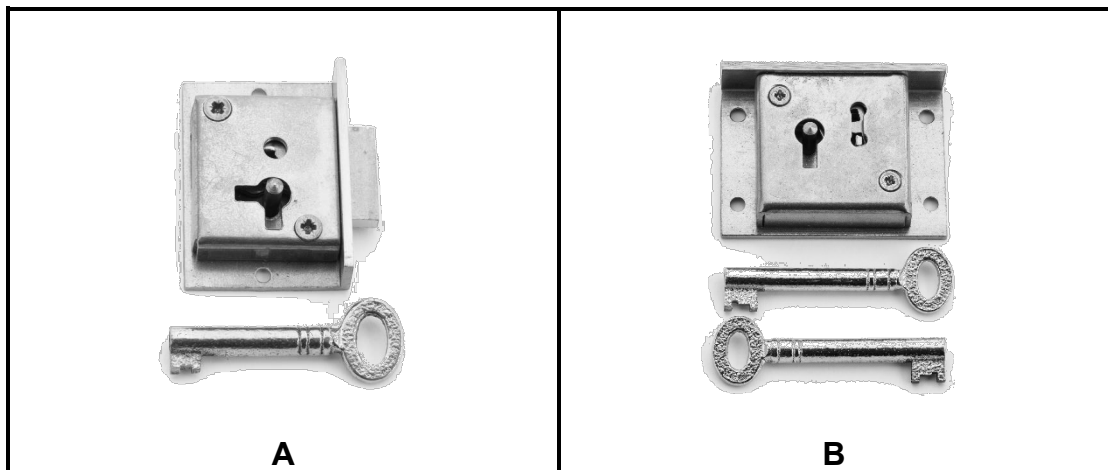

FIGURE 6.2
6.2 FIGURE 6.2 below illustrates two different types of locks.